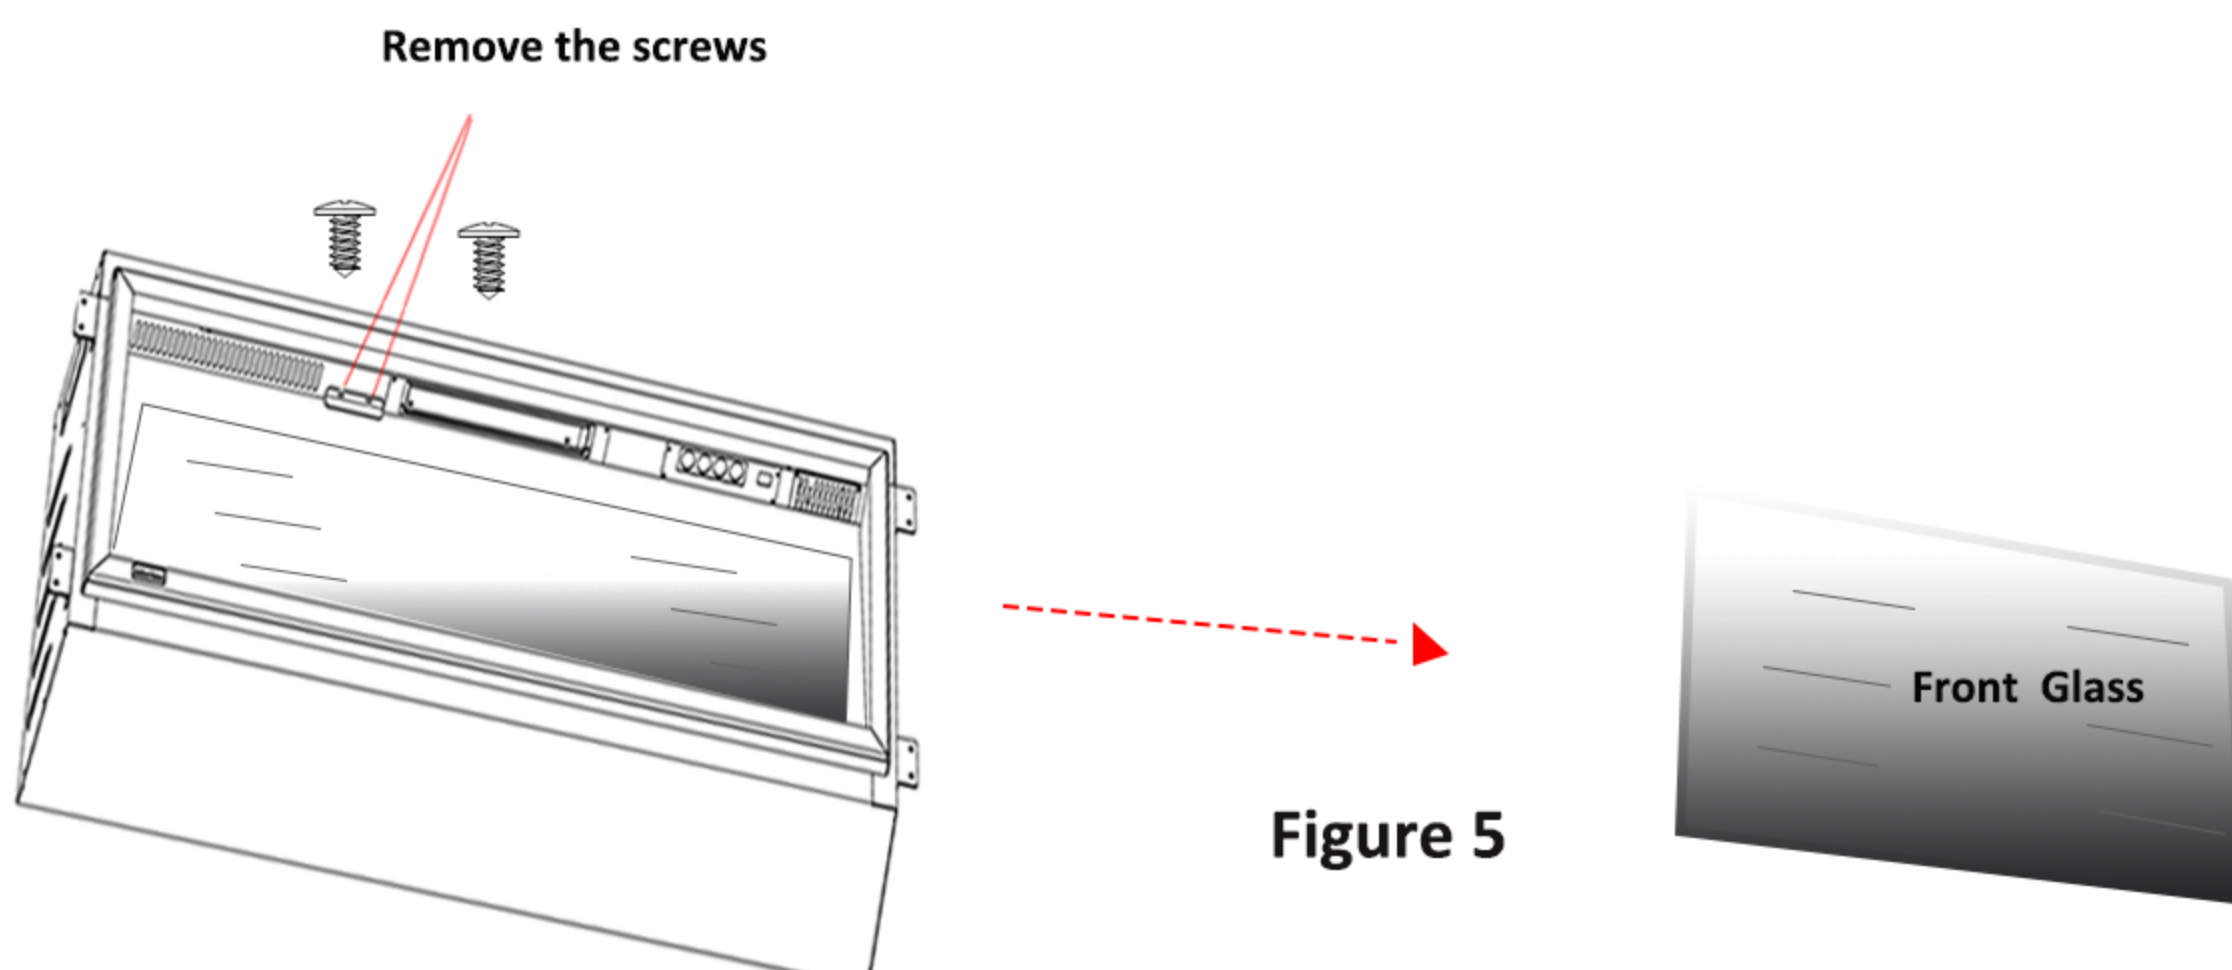

Figure 5
4. Loosen and remove hinge plate behind the top trim. Remove the two screws of the baffle bar on the inclined glass and remove the inclined glass. See figure 5.